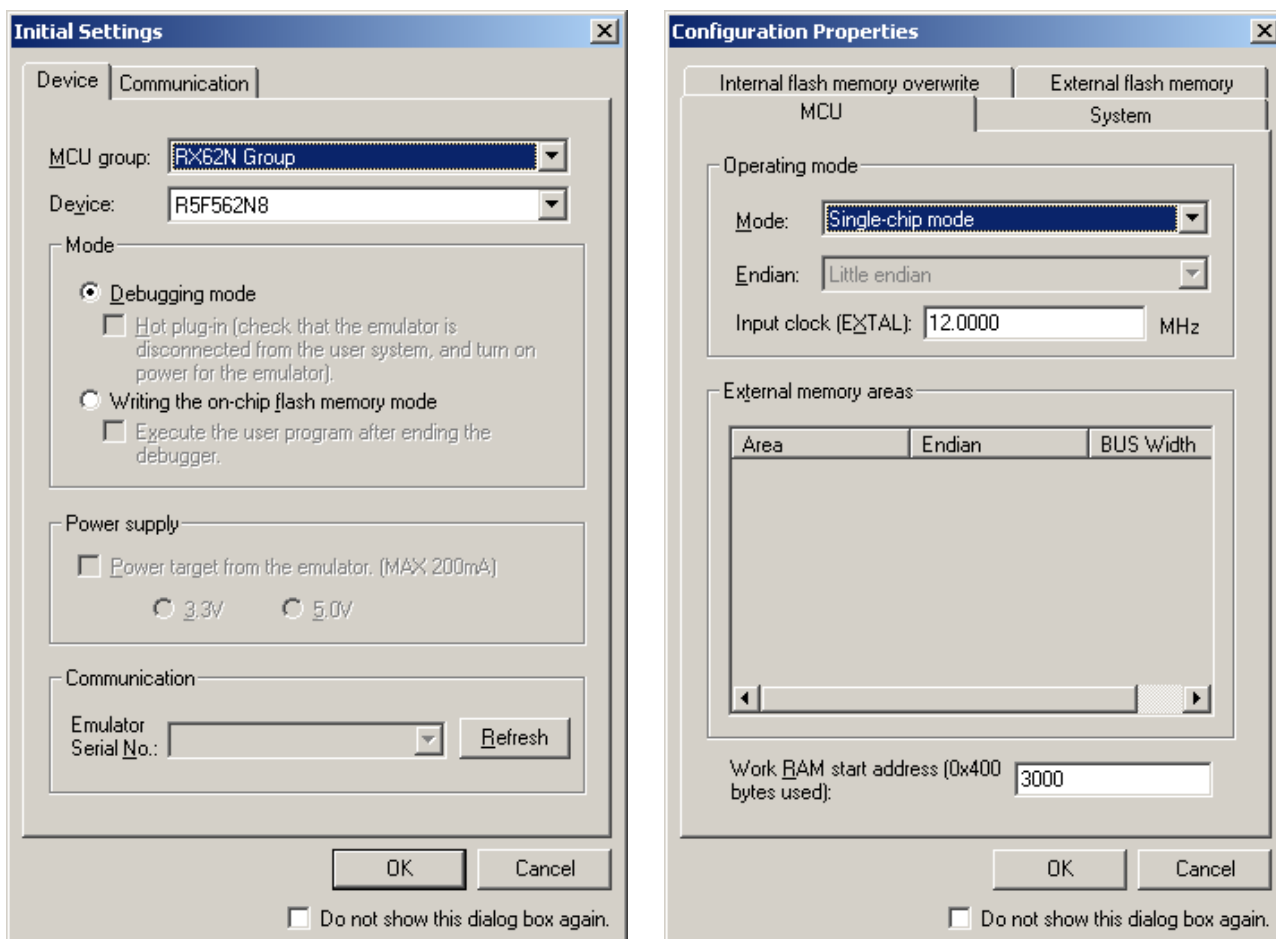

Figure 3-2 : Connect to RDK
Step 3.28 Configure your windows so they look like the ones shown in Figure 3-2 and hit OK until the connection has finished. If a window pops up asking you to specify a JTAG clock choose 16.5MHz. If a window pops up asking you to upgrade the firmware, select OK. When it has finished upgrading the firmware, unplug the USB cable from the YRDK and then plug it back in. At this point follow Step 3.27 to connect to the board again.